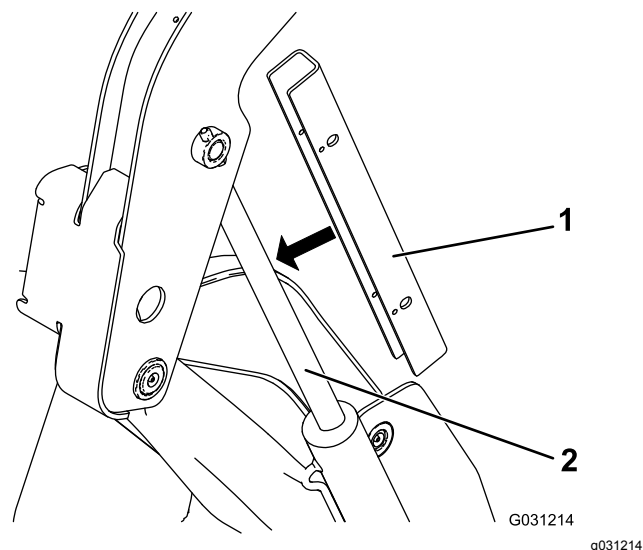

Figure 31
5. Slide the cylinder lock over the lift-cylinder rod (Figure 31).